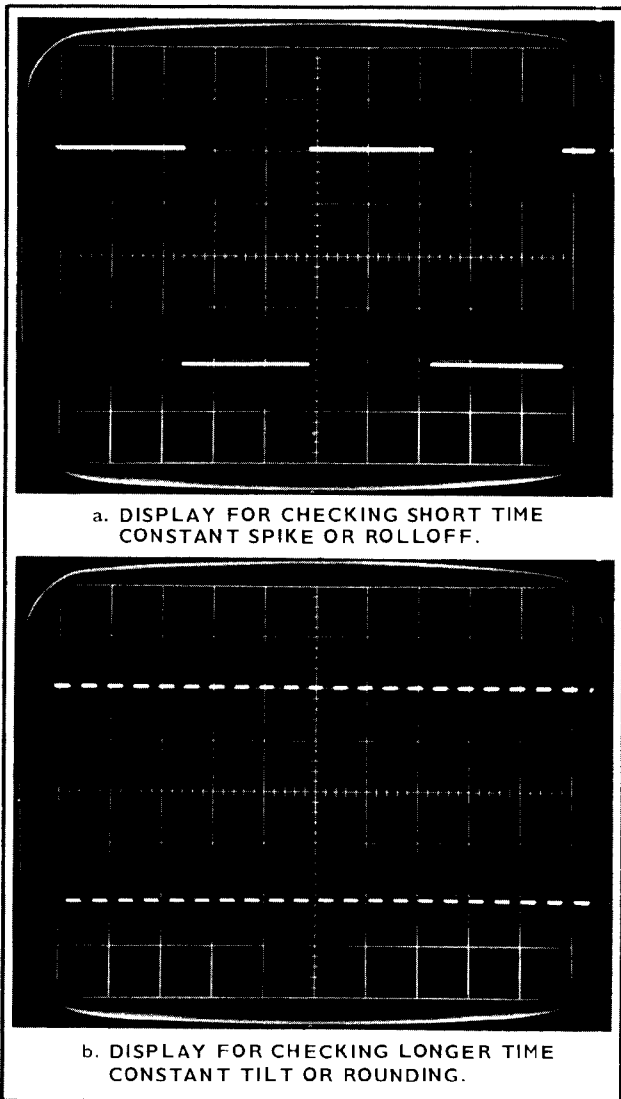

Fig. 5-6. Changes in sweep rate for best displays while checking attenuator compensation. Signal generator repetition rate is the same in both cases.
e. Use Table 5-2 and Fig. 5-6 to check the aberration of the input attenuators. Start at 10 mV/DIV and work to 50 V/DIV, adjusting the Calibrator Amplitude control, removing the attenuator, termination and standardizer when it is not possible to obtain four divisions at higher deflection factors.